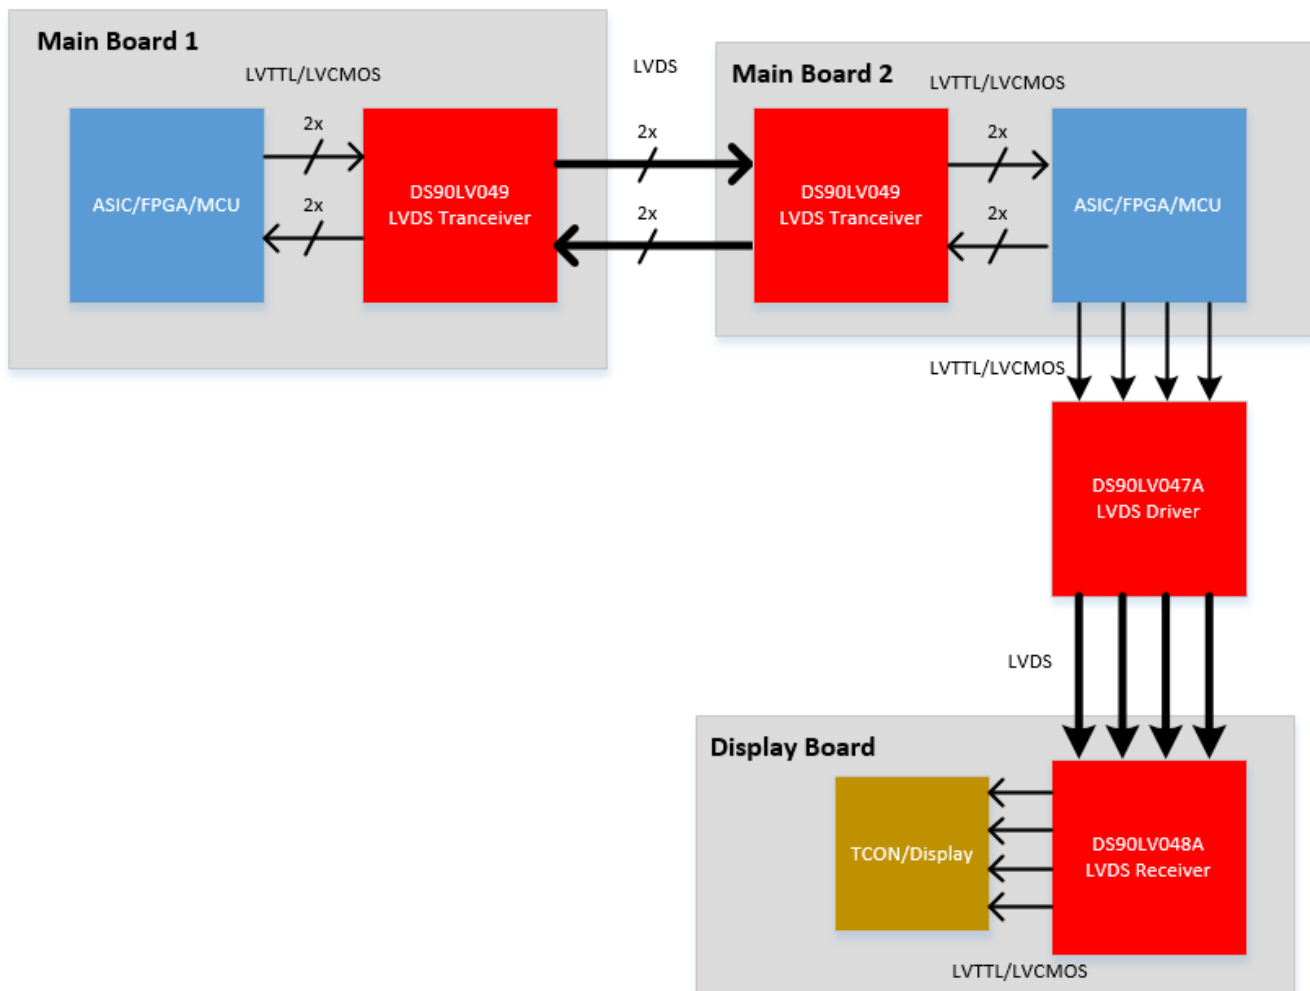

Figure 2. LVDS in Industrial Video Application
- Use LVDS buffer differential design. The board-level, single-ended signal is connected using LVDS to ensure signal immunity and reliability. This scheme can improve interference immunity, as shown in Figure 2: